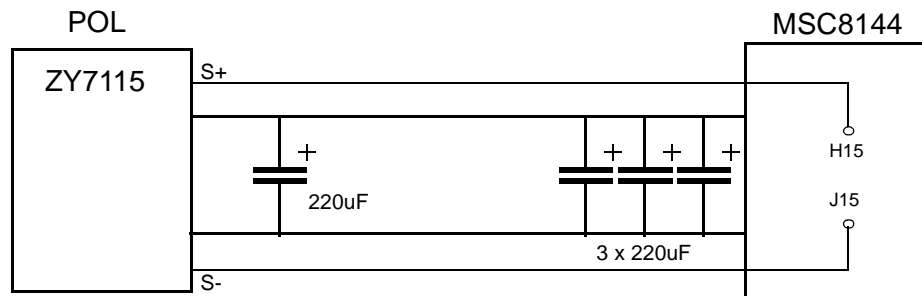

Figure 1. Bulk Capacitors Placement
- Bulk capacitors for V_{DD} . The bulk capacitors decrease low frequency voltage spikes on the V_{DD} . In the case of the MSC8144ADS board, three 220 μF capacitors are placed close to the MSC8144 device and the fourth one is mounted on the side of power supply device as shown in **Figure 1**.